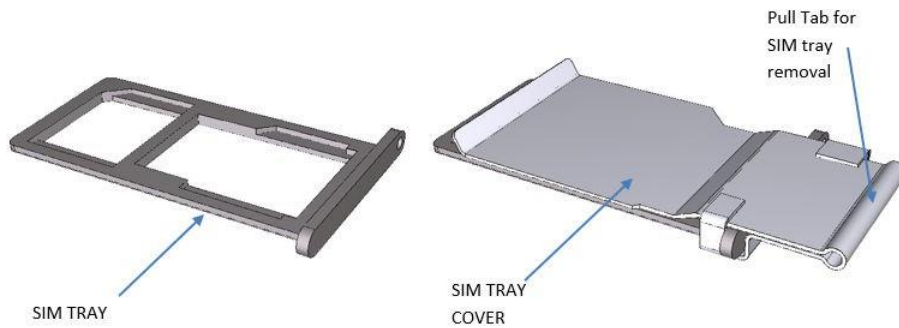
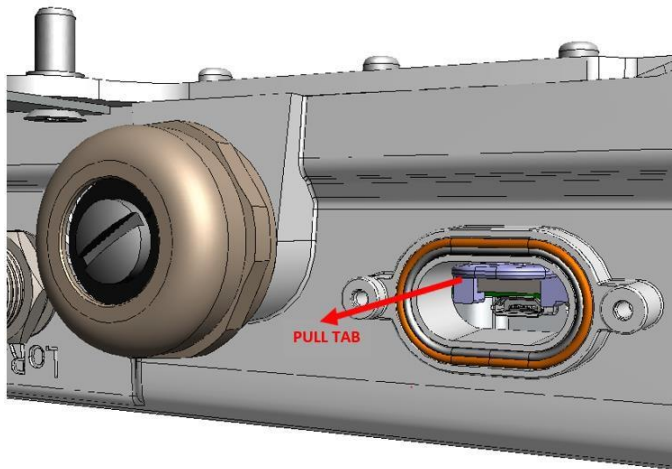

Figure 6: SIM Tray Cover
Figure 7: SIM Tray Removal
6. Supplied pole mounting accessories (shown in Figure 6) for pole mounting or appropriate screws or bolts (four sized M6) with any required anchors according to the wall construction for wall mounting.
The SIM tray can be removed by pulling on the SIM tray cover's pull tab (refer to Figure 6 and Figure 7).